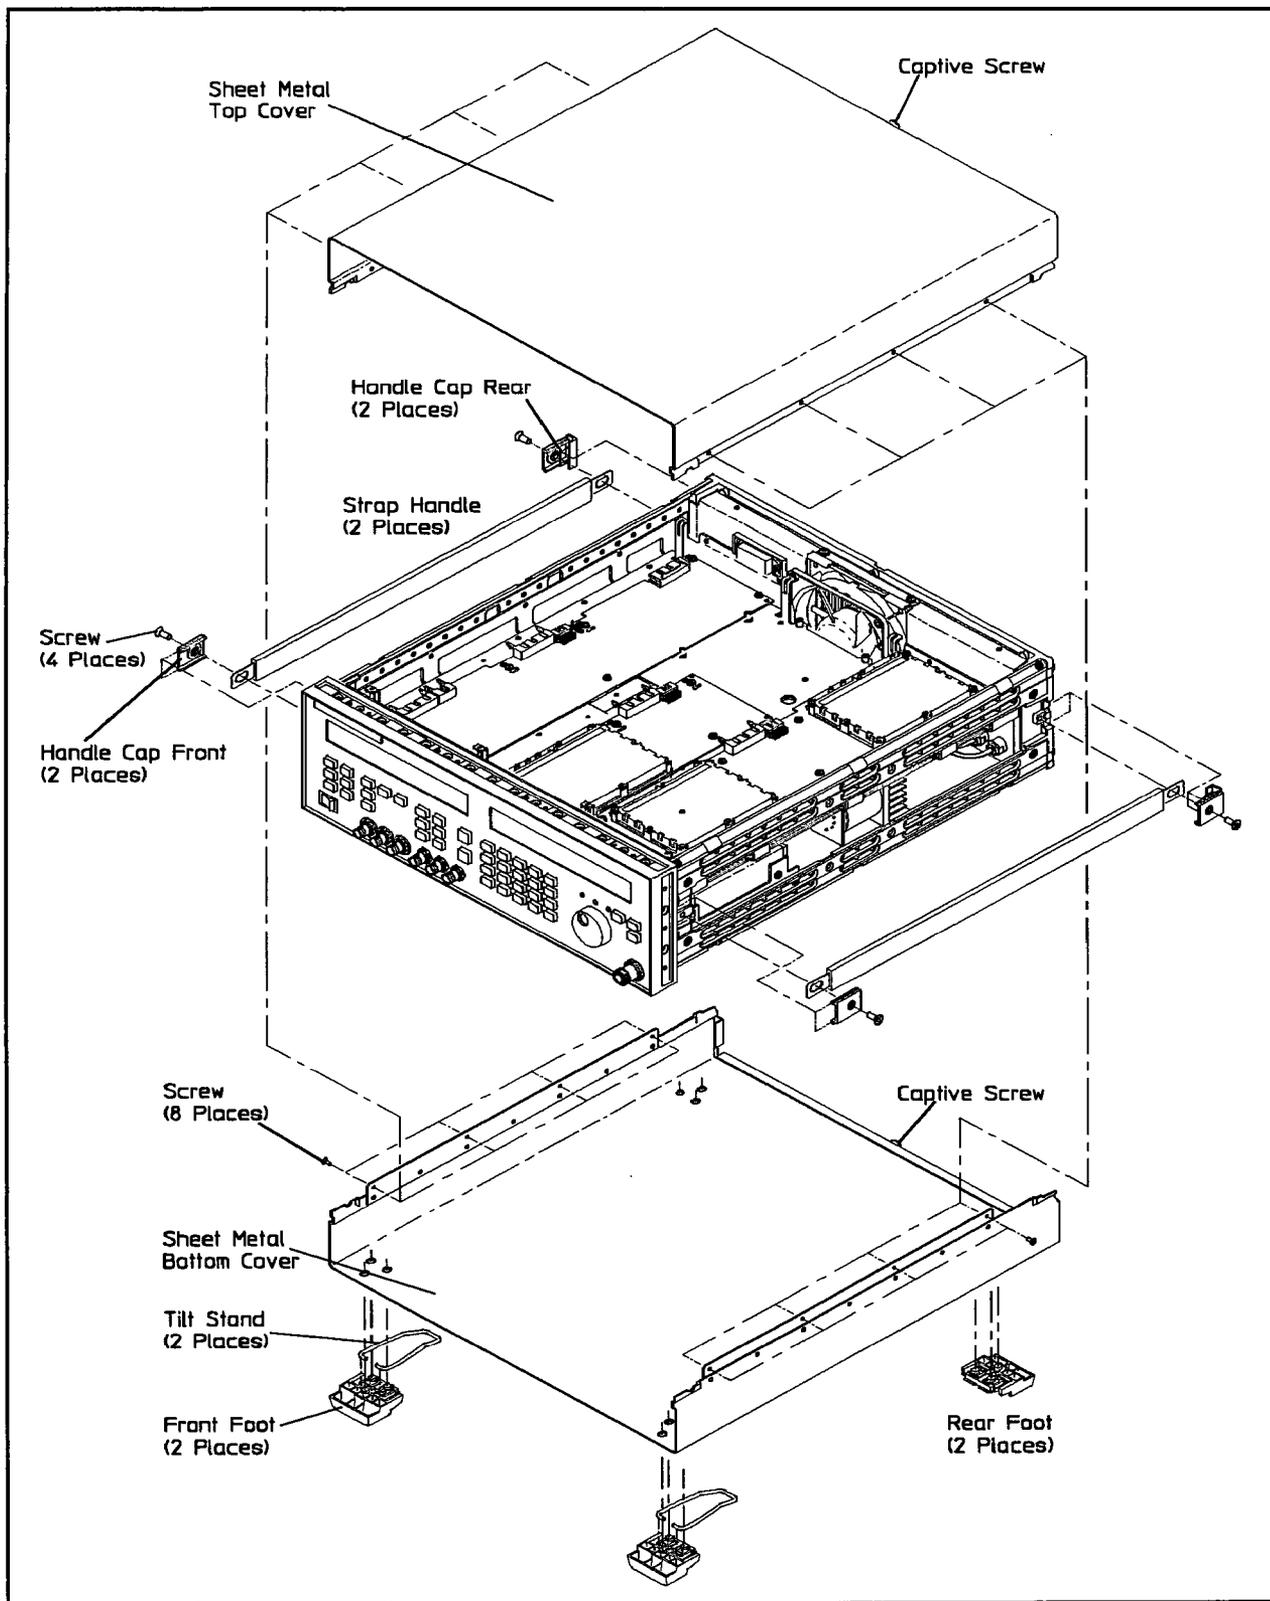

Figure 5-5. Top or Bottom Cover Removal
2. Using a size 15 TORX® screwdriver, remove the side straps by removing the four screws on the side panels (two on each side). See Figure 5-5.
3. Using a size 8 TORX® screwdriver, remove the eight screws from the sides of the instrument (four on each side). See Figure 5-5.
4. Using a size 10 TORX® screwdriver, unscrew the screw located at the rear of the instrument. See Figure 5-5.
3. Using a size 15 TORX® screwdriver, remove the side straps by removing the four screws on the side panels (two on each side). See Figure 5-5.
4. Using a size 8 TORX® screwdriver, remove the eight screws from the sides of the instrument (four on each side). See Figure 5-5.
5. Using a size 10 TORX® screwdriver, unscrew the screw located at the rear of the instrument. See Figure 5-5.